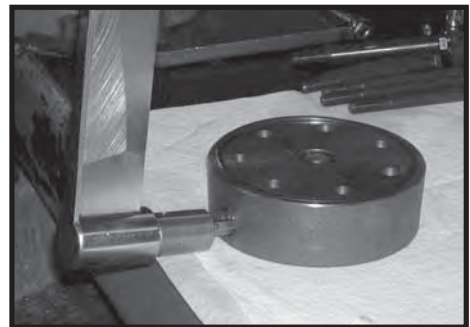

Figure 7
5. If the end cover (2) is equipped with shuttle valve or relief valve (24) components, remove the two previously loosened plugs (21) and o-rings (22). SEE FIGURE 7.
**NOTE: O-ring (22) is not included in seal kits but serviced separately if required.**
**NOTE: The insert and if included the orifice plug in the end cover (2) must not be removed as they are serviced as an integral part of the end cover.**